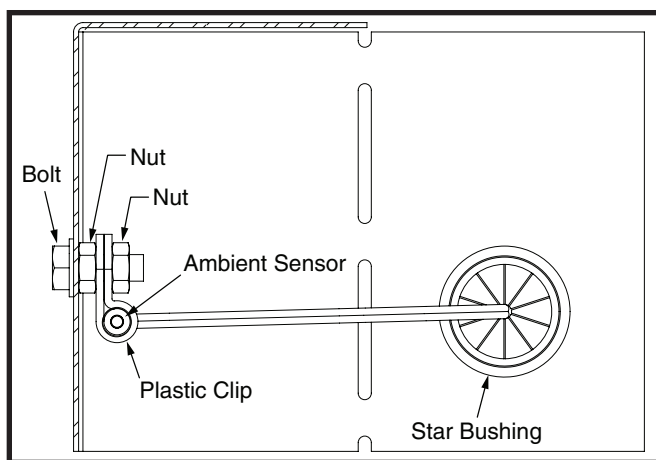

Figure 6. Ambient Sensor Mounting
For optimum performance of the heat pump system, the ambient sensor must be mounted on the outside of the unit. See Figure 6 \(page 10\).
2. Remove star bushing from 7/8" hole in corner panel of the unit. See Figure 6.